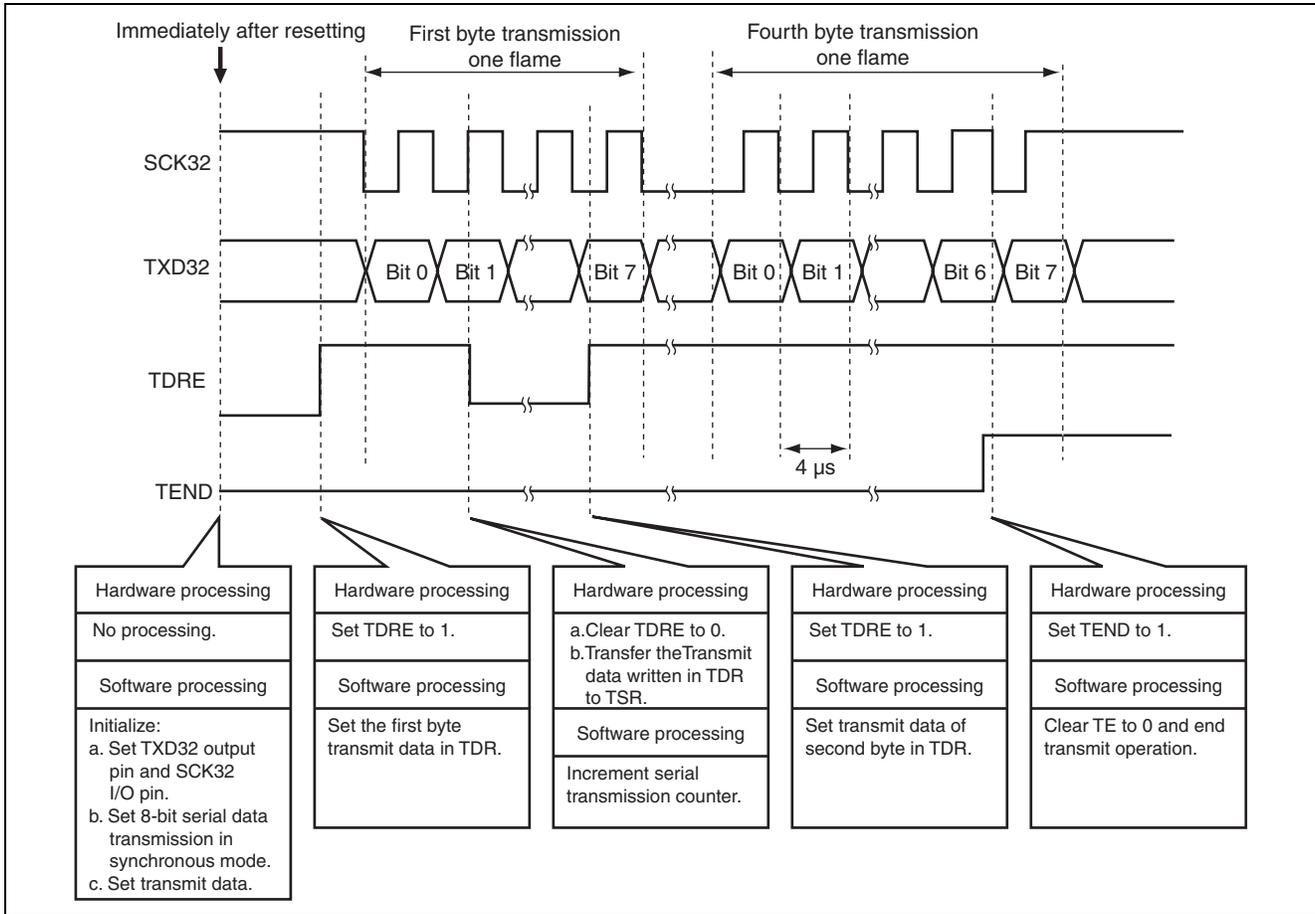

Figure 3.1 Operation Principle of Serial Data Transmission in Synchronous Mode
1. Figure 3.1 illustrates the principle of operation of this sample task. Serial data is transmitted in synchronous mode by hardware and software processing as shown in figure 3.1.